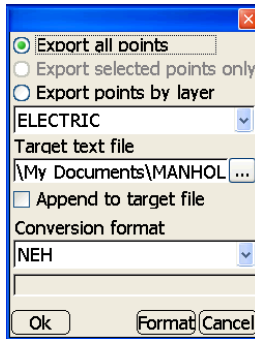

Figure 3-16. Export Dialog Box – Select Points to Export
2. On the *export* dialog box, tap either Export all points, Export selected points only, or Export points by layer. Press the **browse** (“...”) button to select a target text file (Figure 3-16).